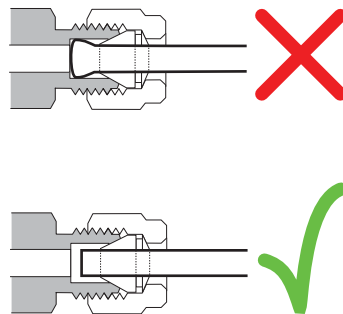

Figure 30 Completed fitting
- 11 Both correctly- and incorrectly-swaged connections are shown in Figure 30. Note that the end of the tubing in a correctly-swaged fitting is not crushed and does not interfere with the action of the ferrules.